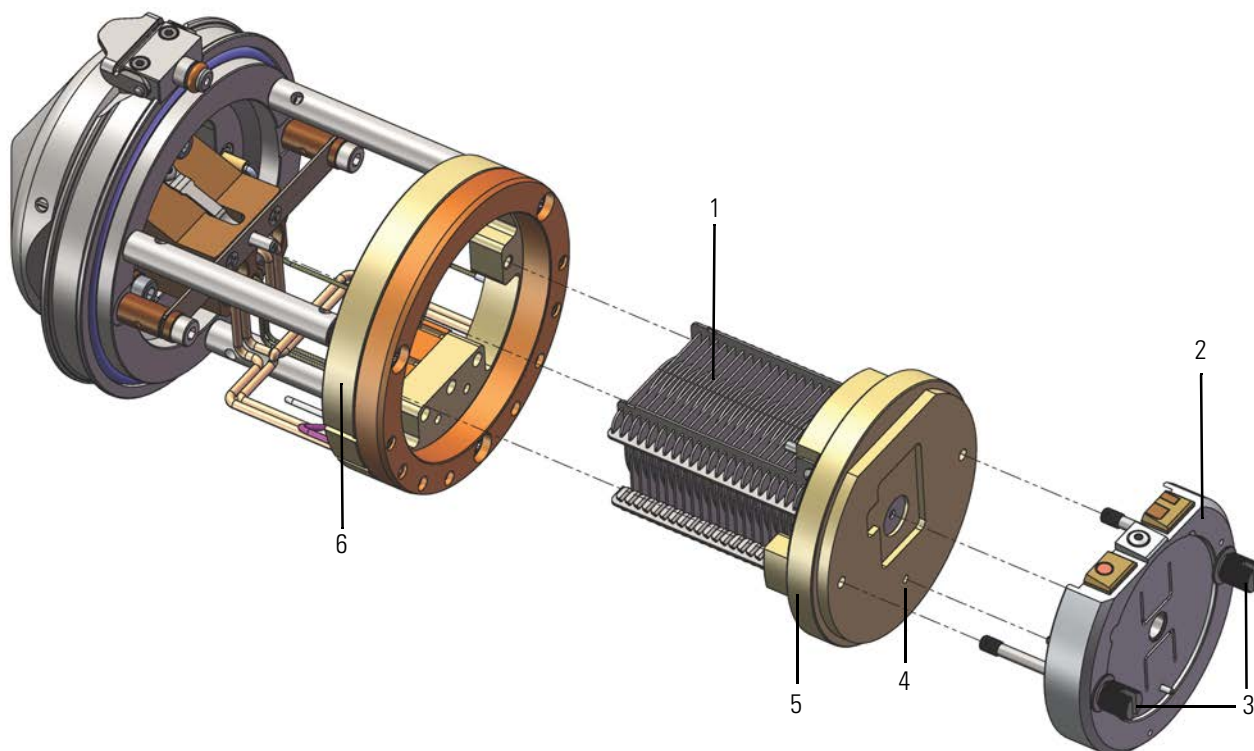

Figure 8-20. Exploded view of the ion source interface cage (Orbitrap Exploris 480 MS)
2. Align the lead pin on the IC unit with the lead pin socket on the S-lens/ion funnel (see Figure 8-20 on page 8-40), and then firmly press the unit until it snaps into place.
4. Orient the S-lens/ion funnel as shown in Figure 8-20, and then carefully slide it into the ion source interface cage.